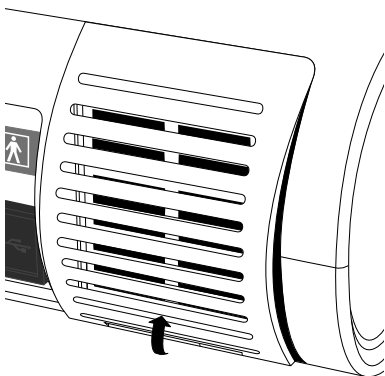

Fig. 12: Removing the air inlet cover
2. Remove the cover for the air inlet by gripping the cover from below and pulling it from the device (see Fig. 12).